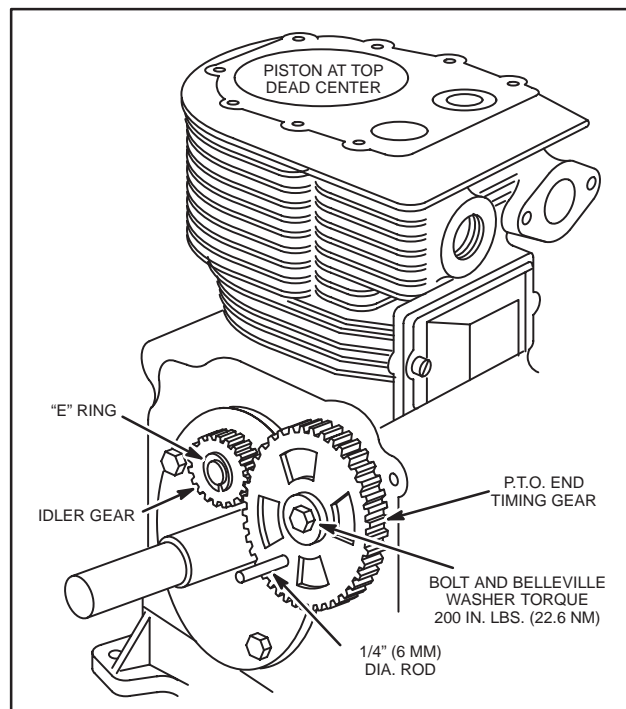

Fig. 184 – INSTALLING AND TIMING PTO DRIVE GEAR
**NOTE:** On Model Series 300400 and 320400 only, place PTO end timing gear on the other end of camshaft. Install short cam gear bolt with Belleville washer, finger tight, Fig. 184.
**NOTE:** For Model Series 300400 and 320400 also see Fig. 184.